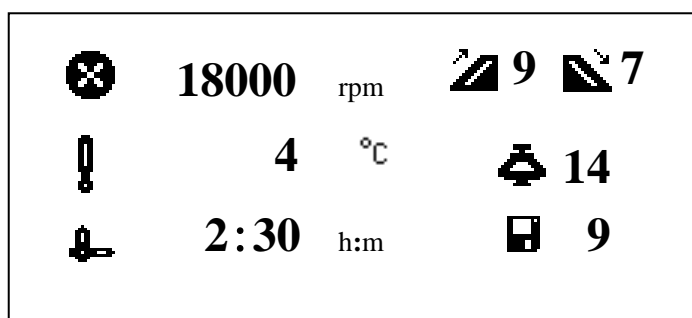

Figure 7-2 Preparation mode interface
- This centrifuge will move to a preparing interface after self-checking, and display the running parameters of the last time. For example, the Figure 7-2 shows that the speed